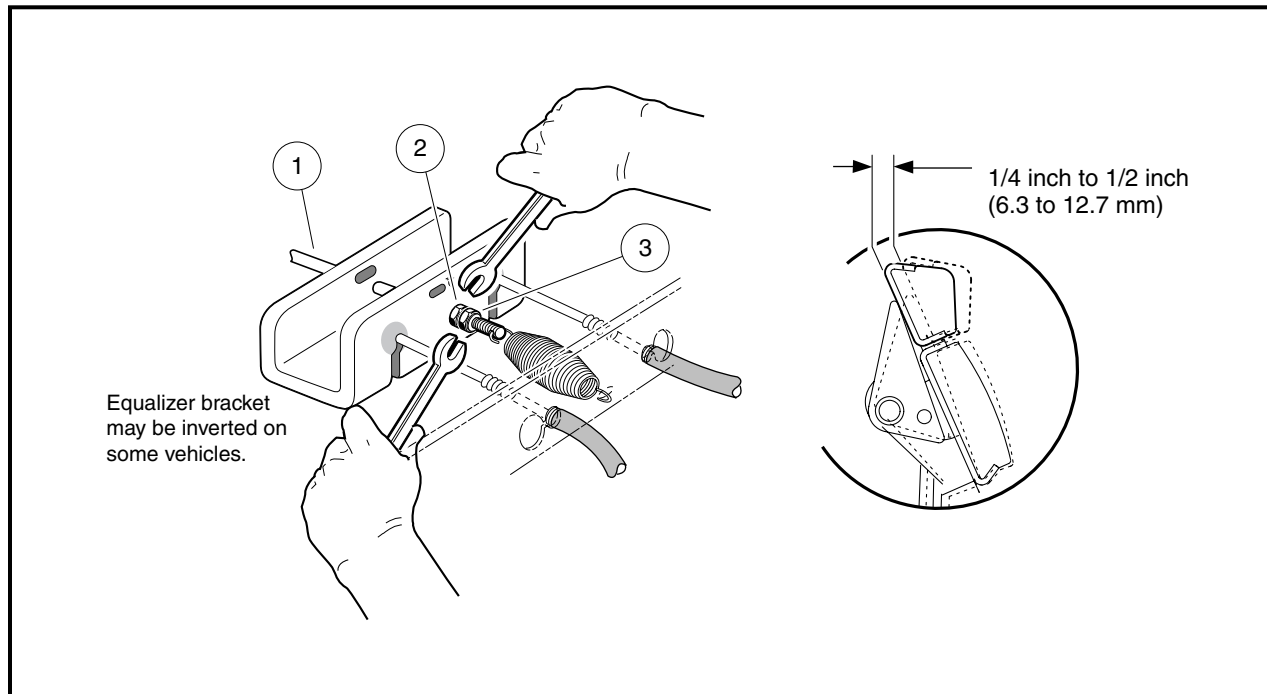

Figure 5-5 Brake Pedal Free-Play Adjustment
4. Tighten the nut (2) on the equalizer rod (1) so that brake pedal free-play is 1/4 inch to 1/2 inch (6 mm to 13 mm) **(Figure 5-5, Page 5-4)**. **See following NOTE.**
5. Tighten the jam nut (3) while holding the adjustment nut (2) in the correct position (**Figure 5-5, Page 5-4**).